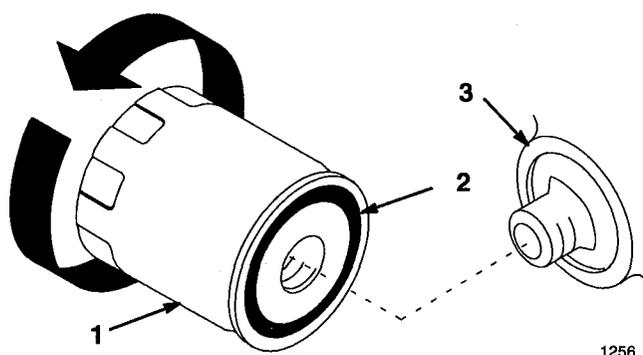

Figure 37
2. Remove the transaxle filter and wipe the filter adapter (Fig. 37) gasket surface.
3. Apply a thin coat of new oil to the rubber gasket on the replacement filter (Fig. 37).
4. Install the replacement transaxle filter to the filter adapter. Turn the filter clockwise until the rubber gasket contacts the filter adapter, then tighten the filter an additional 3/4 turn (Fig. 37).